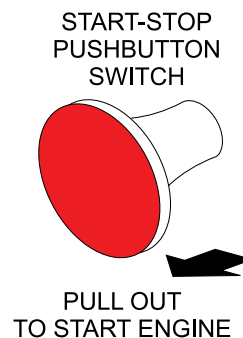

Figure 16. Engine Start/Stop Button
5. Located at the rear of the mixer frame is the main **start/stop** button (Figure 16). Pull this button outward to start the engine.